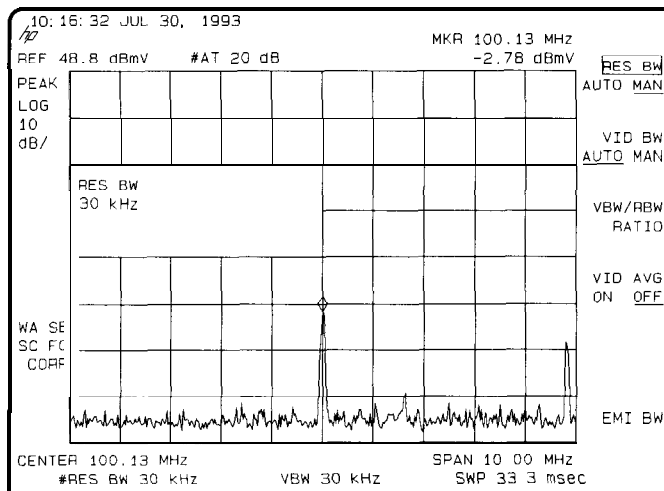

Figure 4-17. Decreasing Resolution Bandwidth
2. Press **BW** then **↓**. The low-level signal appears more clearly because the noise level is reduced. See Figure 4-17.